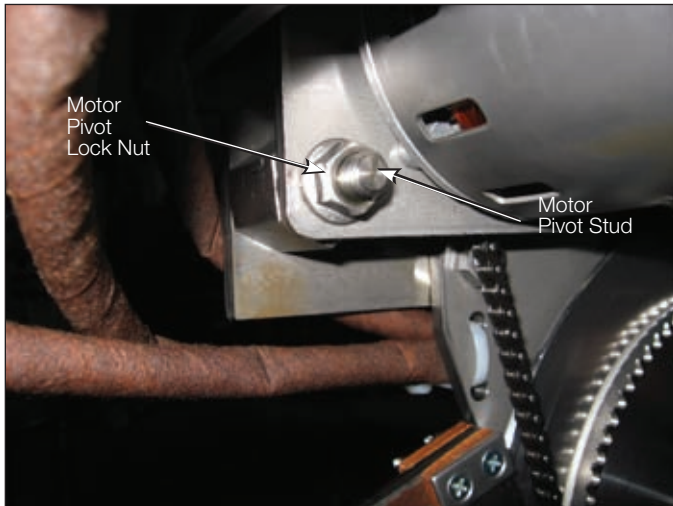

Figure 5.
- 6a. If the QD8 has a motor pivot design with a lock nut as shown in Figure 5, remove the motor pivot stud lock nut with a 9/16 inch (14 mm) socket on a ratchet. Pull the motor off of the motor pivot stud (make sure the Belleville washer stays on the motor pivot stud) by tilting the back of the motor up and moving the motor toward the reversing contact assembly. Remove the chain from the motor sprocket.
Note: If you have the motor pivot stud design as shown in Figure 5, follow step 11. If you have the motor pivot bolt design as shown in Figure 6, follow step 12.